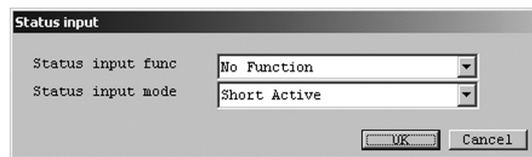

Fig.47
- ① Click the "Setup (S)" menu, and then select and click "Status input".
- ② The following window will be displayed (Fig. 47). Set the status input function here.